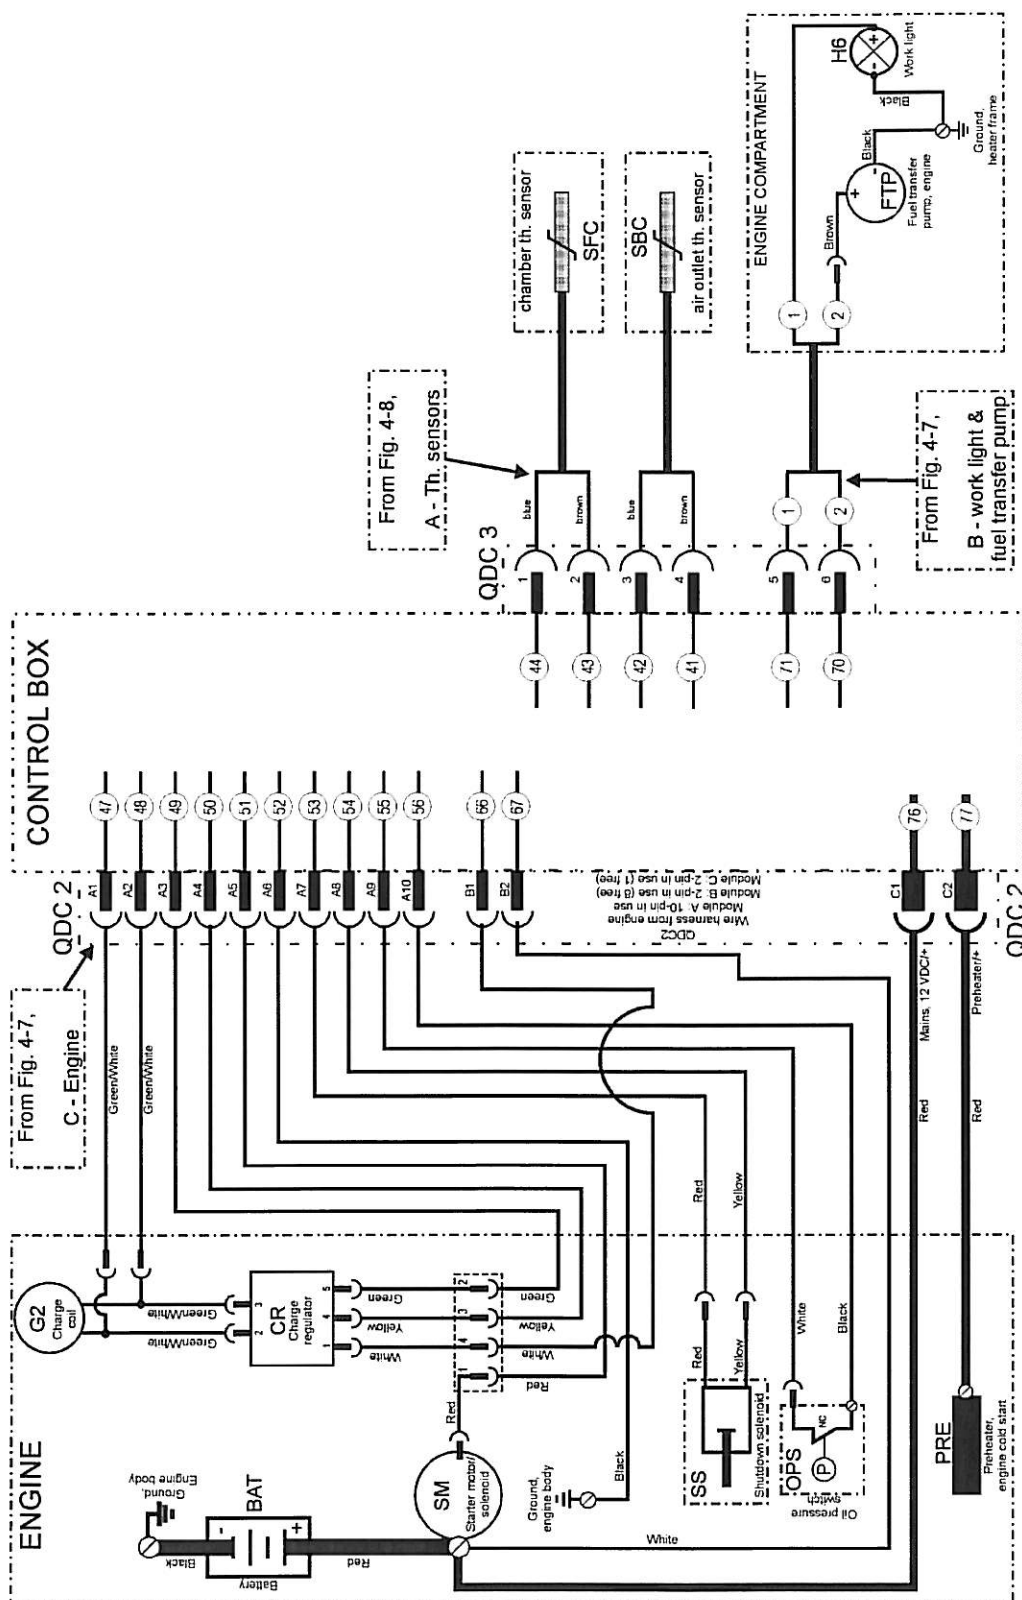

Figure 4-6. Engine/Alternator 12 VDC Electrical Schematic
**4.3.3 CONTROLS GROUP.** Refer to Figures 4-6 through 4-9 during the following explanation of the controls group.